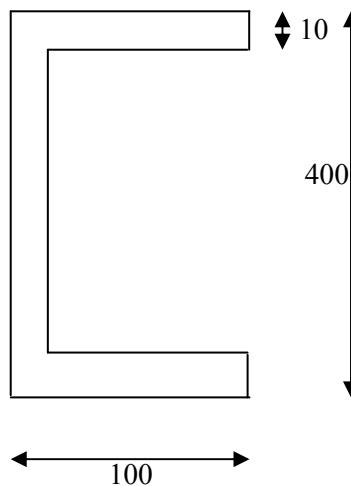

Figure 2
- Q.3 (a) The vertical shear action on a channel section is 25 kN. Find the shear flow and shear center of the section as shown in figure 2. Assume constant thickness of 10 mm throughout the section. $I = 1.21 \times 10^8 \text{ mm}^4$ (07)